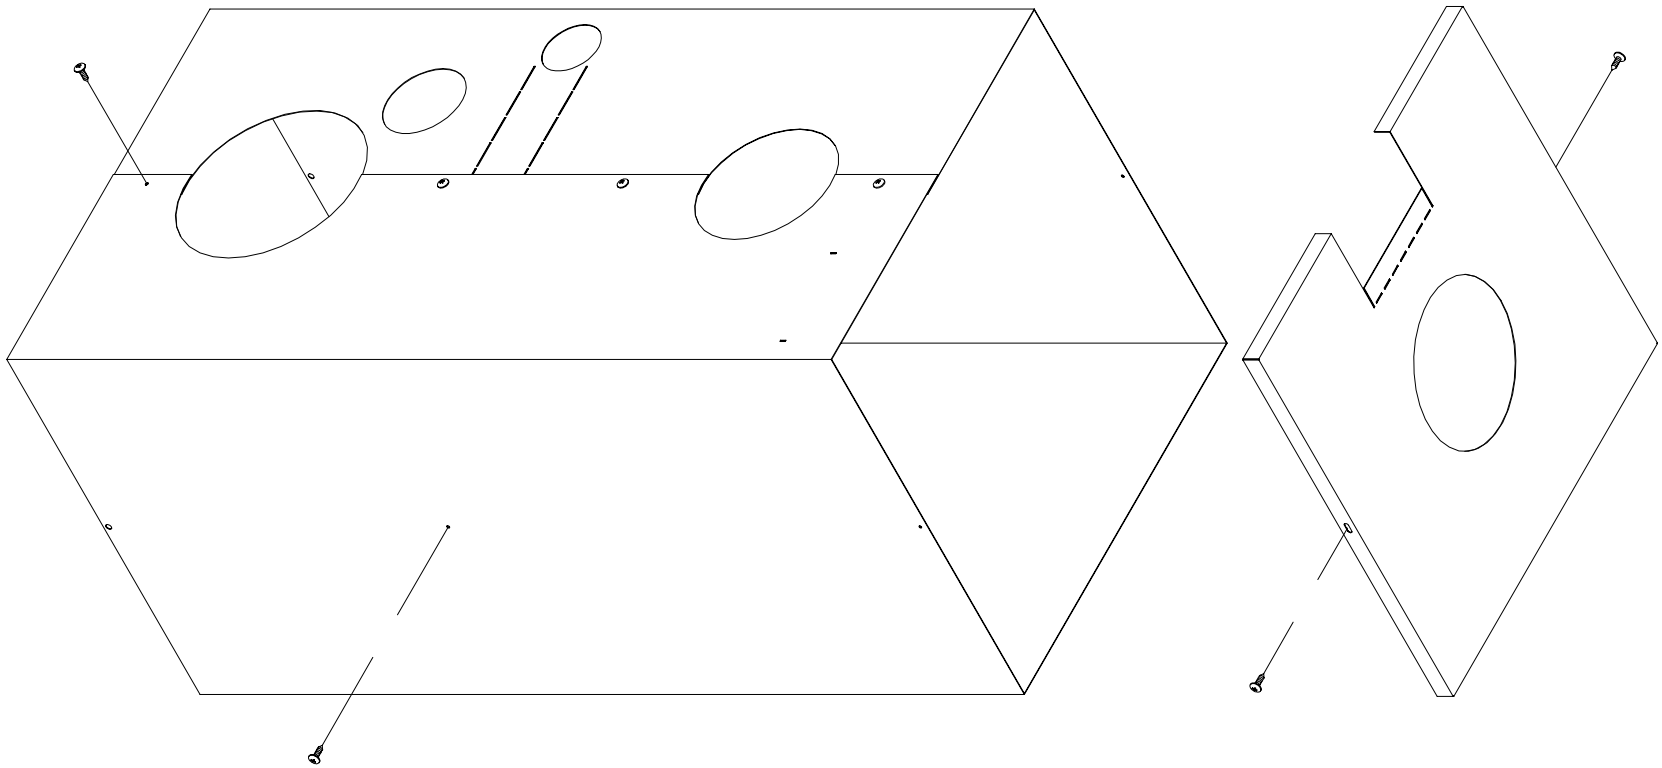

Figure 6: RSA Jacket Assembly
2. Bend jacket according to Figure 6. Starting from the front, wrap the jacket around the boiler. Make sure that return pipe, observation port and shell extension fit proper into there corresponding clearance holes. Continue bending jacket around until front panels meet.